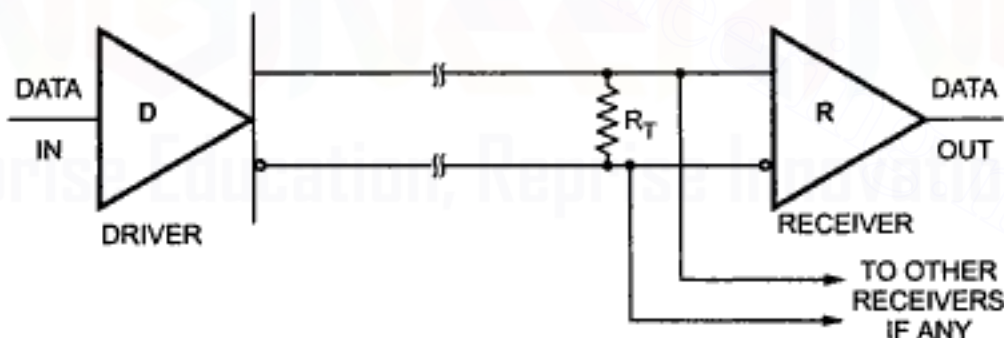

Fig. 14.10 RS-422-A interface circuit
A basic RS-422-A circuit has a data line driver, differential transmission line and loads, where a load may consist of one or more receivers (R) and the line termination resistor ( $R_T$ ), as shown in Fig. 14.10.